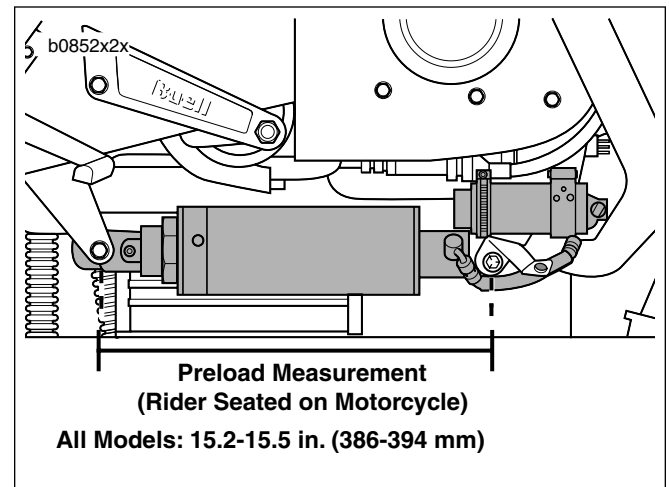

Figure 4. Measuring Preload
1. See Figure 4. Check and adjust rear shock preload.